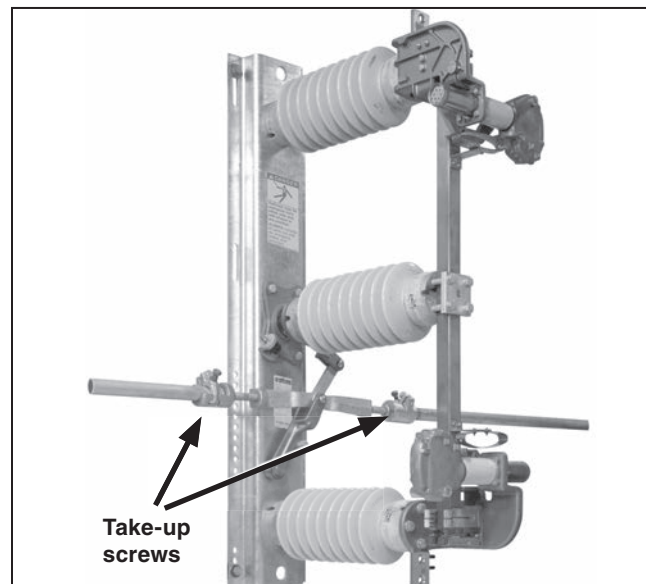

Figure 34. Readjusting the take-up screw(s) on the adjustable pipe coupling(s).
- (e) In the unlikely event only one or two switch poles are fully closed, readjust the take-up screw(s) on the adjustable pipe coupling(s) at the switch pole to increase or decrease the effective length(s) of the interphase operating pipe(s). See Figure 34.